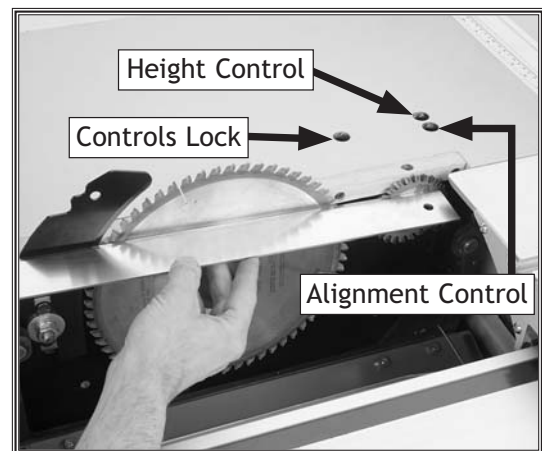

Figure 59. Checking and adjusting scoring blade positioning.
7. Unlock the scoring blade controls by inserting a 6mm hex wrench into the controls lock hole shown in **Figure 59** and turning the mechanism inside counterclockwise until loose.
8. Adjust the height of the scoring blade until the exposed portion equals the kerf thickness of the main blade. The scoring blade height control is accessed through the hole in the table (**Figure 59**) and adjusts with a 6mm hex wrench. Use a straightedge to verify that the scoring blade kerf matches the main blade.
9. If the scoring blade is not aligned with the main blade, adjust the blade alignment control (**Figure 59**), using a straightedge as a guide.